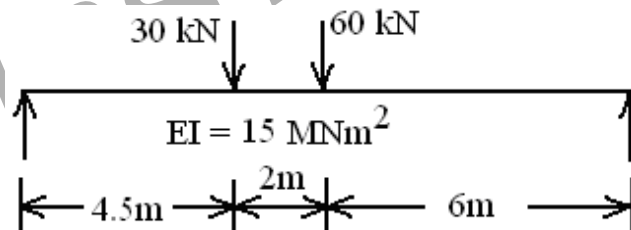

figure 1
3. Compute the maximum deflections and support rotations in the beams of the following figure 1 using